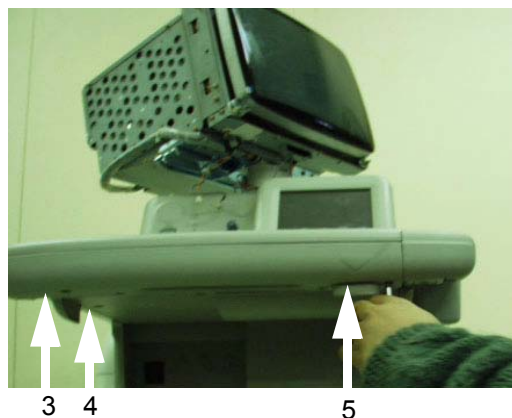

Figure 8-49 Unscrew 3 screws from the bottom
- 3.) Unscrew three screws (3-5) from the bottom of the keyboard. Refer to Figure 8-49 on page 8-13 .